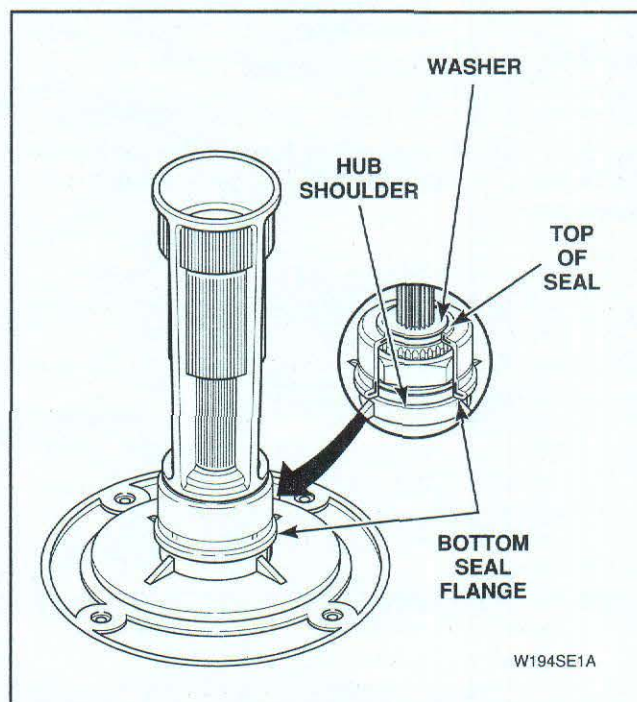

Figure 20
- Turn seal tool upside-down and place small end over output shaft and onto washer, *Figure 20*.
- Push down on tool with a quick motion until tool bottoms out and top of seal is fully seated, *Figure 20*.